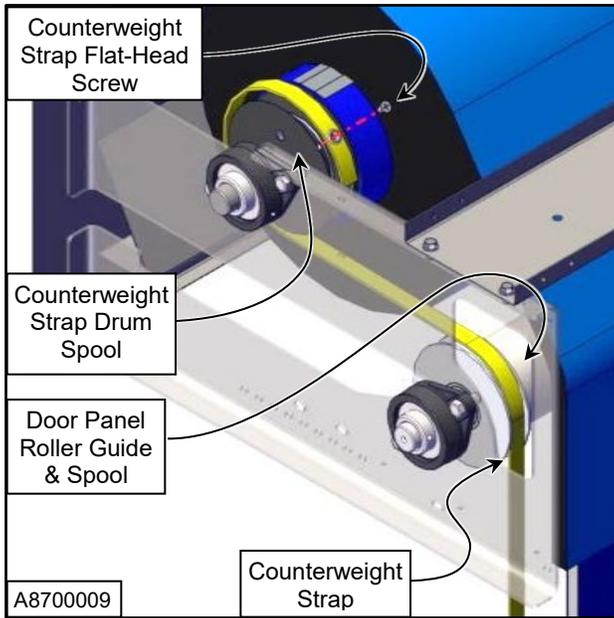

Figure 52
- Remove and save the screw securing the strap to the drum spool. (See Figure 52)
- Attach the new strap to the drum spool in the same manner as the old strap using the saved screw. (See Figure 52)